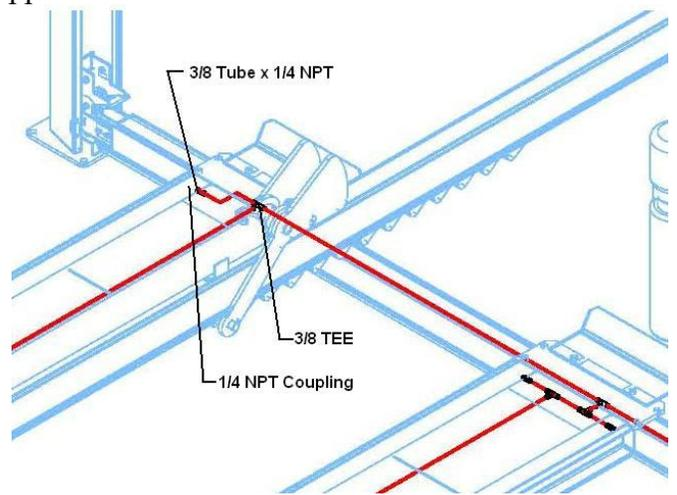

Figure 6
12. Route the 3/8" tube from the 3/8" tee in the passenger side front crossbeam to the 3/8" tee in the front drivers side runway as shown in **Fig 6**. Connect the 3/8" tube x 1/4" MNPT fitting to the 1/4" NPT coupling welded in the runway.